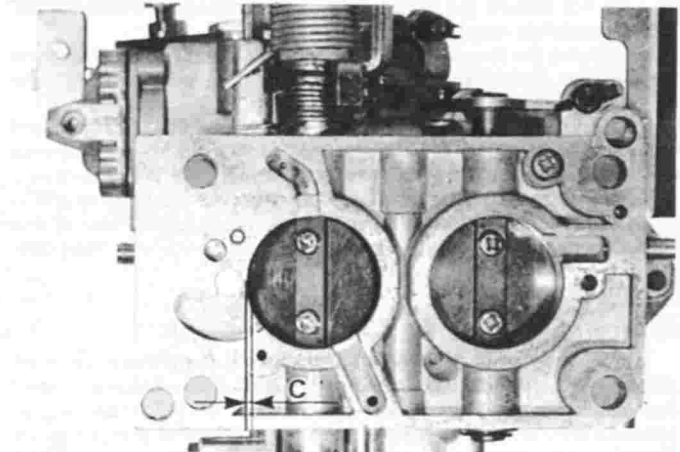

Fig. 17.9 Fast idle checking (Sec 4)
13 Invert the carburettor, and pull the choke operating lever to fully close the choke flap. The fast idle screw will butt against the fast idle cam and force open the throttle plate, to leave a small clearance (C) in Fig. 17.9.